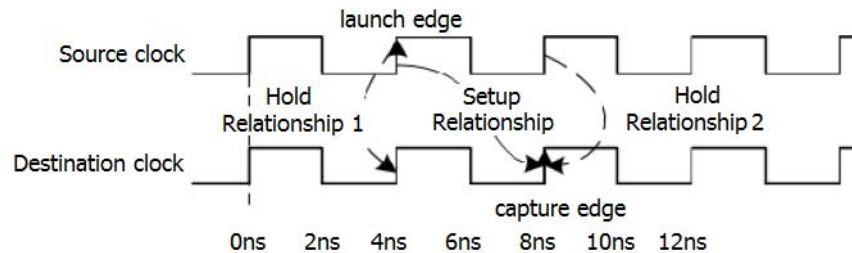

Figure 6-1: Example of Setup and Hold Relationships for a Path
IMPORTANT: There are two hold relationships for each setup relationship. (1) The first hold relationship ensures that the setup launch edge is not captured by the edge arriving before the active capture edge. (2) The second hold relationship ensures that the edge after the active launch edge is not captured by the active capture edge. The timing analysis tool calculates both hold relationships but only the most restrictive is kept during analysis and reporting. See Figure 6-1, Example of Setup and Hold Relationships for a Path.